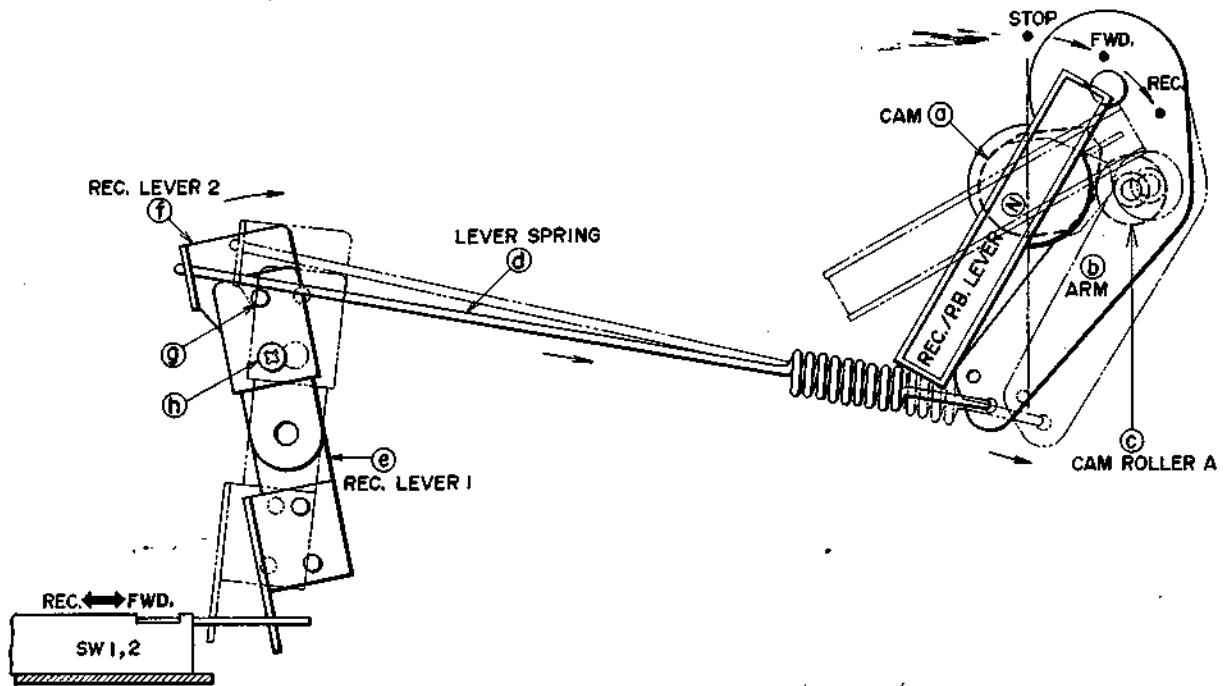

Fig. 12
- (1) Set REC/PLAY Lever from FWD to REC position.
- (2) Cam (a) pushes Cam Roller (c) and Arm (b) as illustrated by the dotted lines in Fig. 12.
- (3) Arm (b) pulls Lever Spring shaft (d) as indicated by the arrow mark.
- (4) Then, Recording Levers 1 and 2 ((e) and (f)) set Slide Switches SW-1 and SW-2 to recording condition.